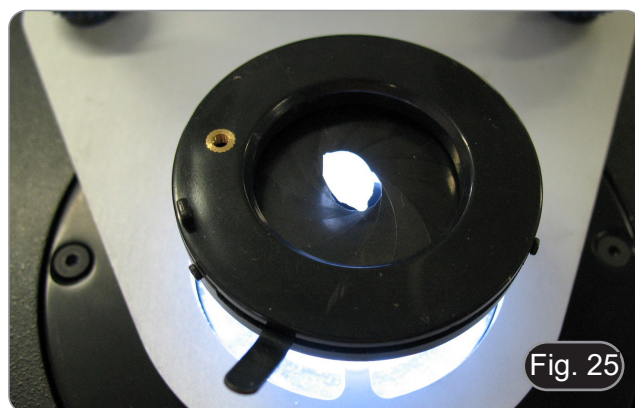

Fig. 25
- If you want it is possible to put your gem directly on the diaphragm, after closing it to a proper diameter. (Fig. 25)